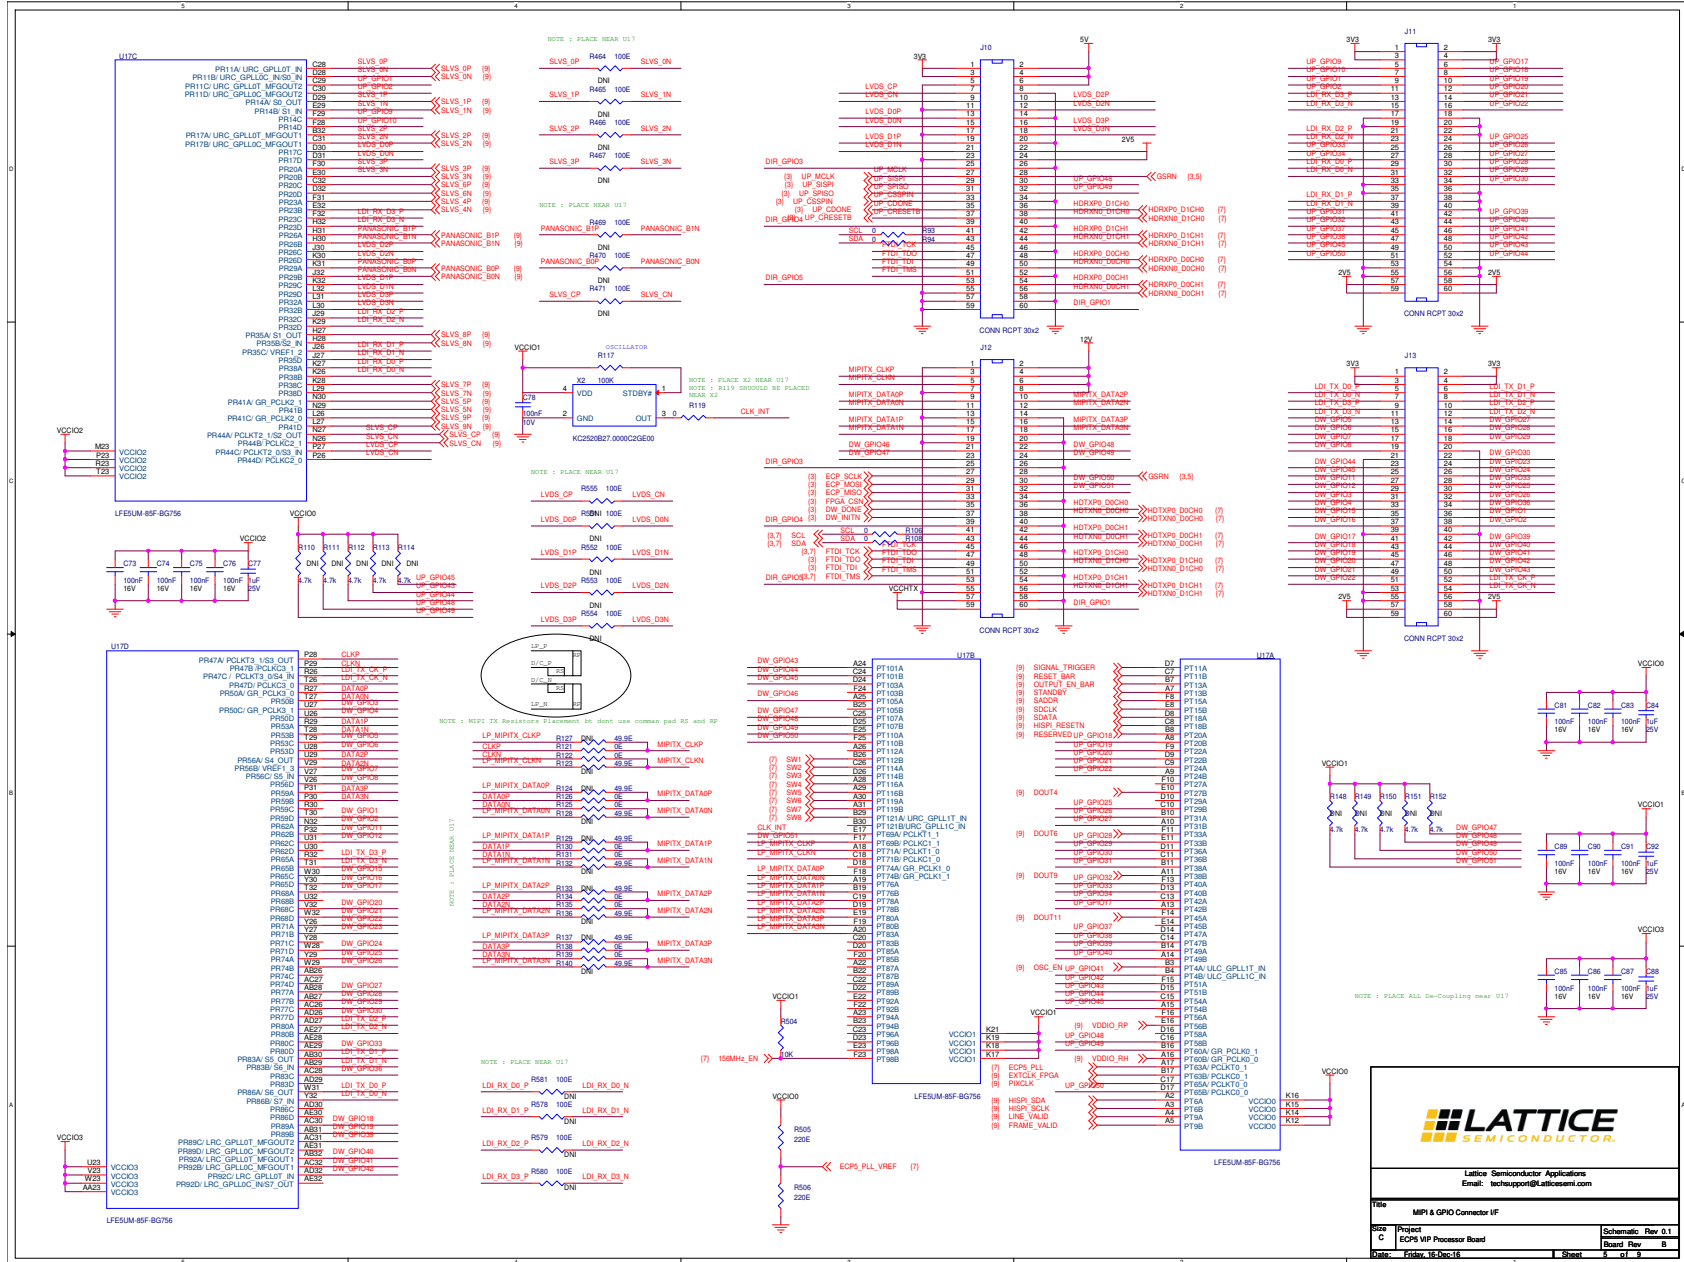

Figure C.2. MIPI and GPIO Connector Interface Revision B
- The ECP5 SPI interface is routed directly to the downstream connector J12. Later revisions of the board have this interface open with the ability to bridge using 0 Ohm resistors, R588, R589 and R590. See Figure C.2 for the schematic of Revision B.